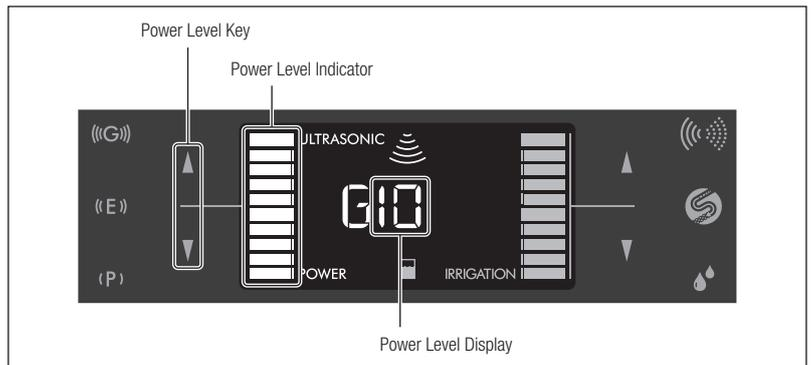

Fig. 21
- 2) Touch the Power Level Key (▲/▼) to set the Power Level. The Power Level Display and the Power Level Indicator increase or decrease in accordance with the selected level (Fig. 21).